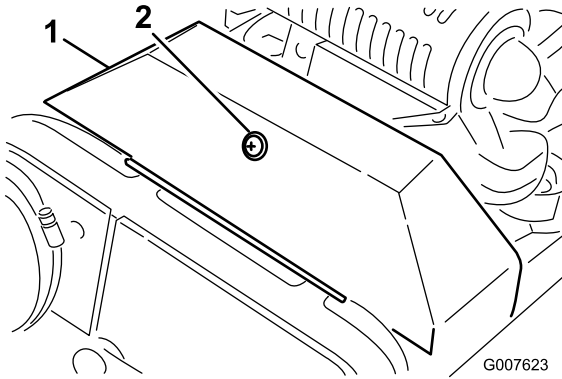

Figure 29
2. Loosen the retainer securing the V-belt cover and pivot the cover open (Figure 29).